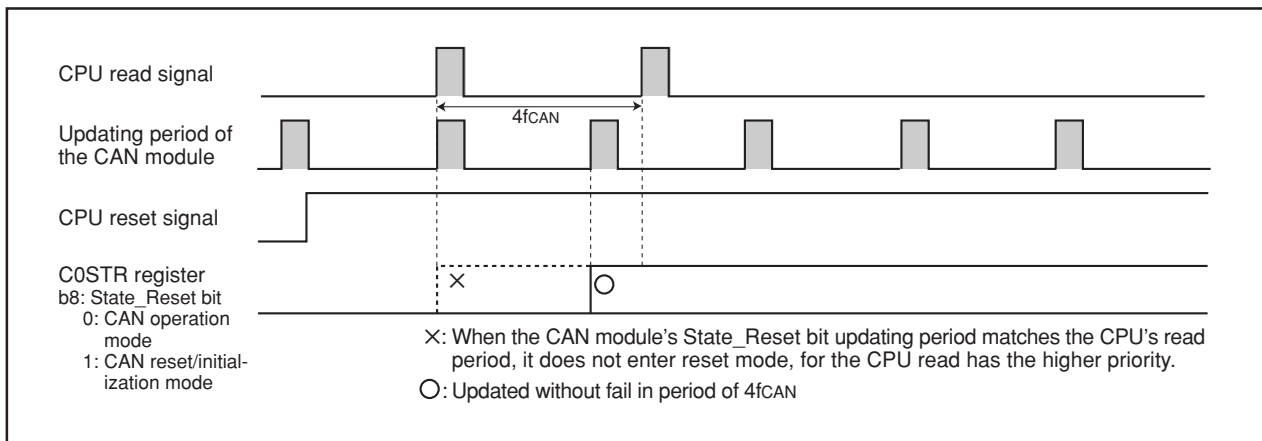

Figure 1.11.3 When Polling Period of CPU is 3fCAN or Longer
- (2) When the CPU polls the C0STR register, the polling period must be  $3f_{CAN}$  or longer. (Refer to Figure 1.11.3.)